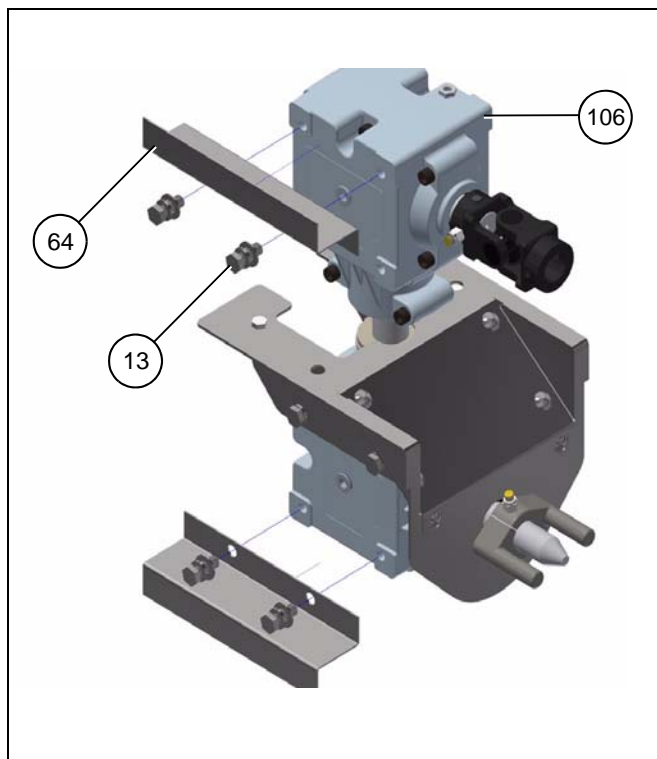

Figure 4N
3. Prepare the gearbox assembly (106) for installation by removing the two shipping brackets (64). Remove four bolts (13) as shown in Figure 4N. The shipping brackets (64) can be discarded. The removed hardware is used in the next step.